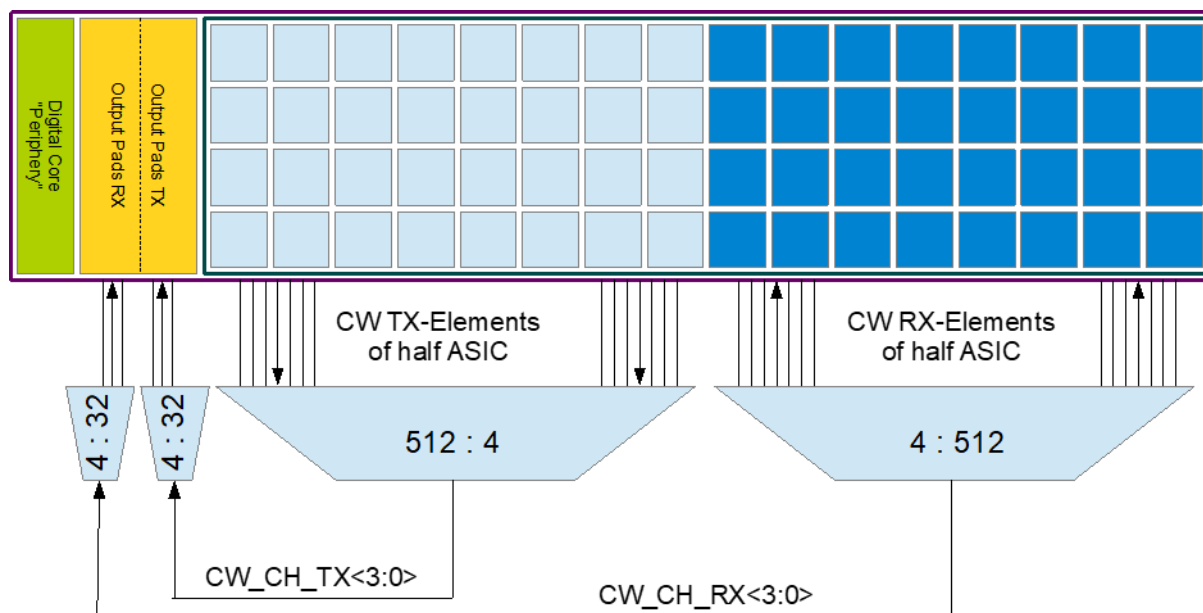

Figure 60: Continuous-Wave mode configuration.
Although Continuous-Wave (CW) operation is technically possible by infinitely transmitting with half the elements and receiving with the other half, the noise, dynamic range and power requirements will not be met. Therefore, a dedicated CW mode is implemented in the USx-ASIC. In this mode, the ASIC is split in the middle where the left half acts as a transmitter and the right half acts as a receiver. It is also possible to use the left half of the ASIC for receive and the right half for transmit. The internal connections are the same, the TX/RX is just the chosen naming convention. This is graphically shown in Figure 60. Furthermore, all electronic circuitry on the ASIC is powered down. Only numerous switches do the CW-beamforming by combining the elements in a fixed beamforming profile with phases of 90° while taking advantage of the arbitrary 360° phase wrapping. In CW mode, there is no inherent relation between the elements contained in a group and that group's acoustic line. On the contrary, in this mode the routing configuration can be viewed as 4 CW lines to which any acoustic channel and any element can be connected to arbitrarily.